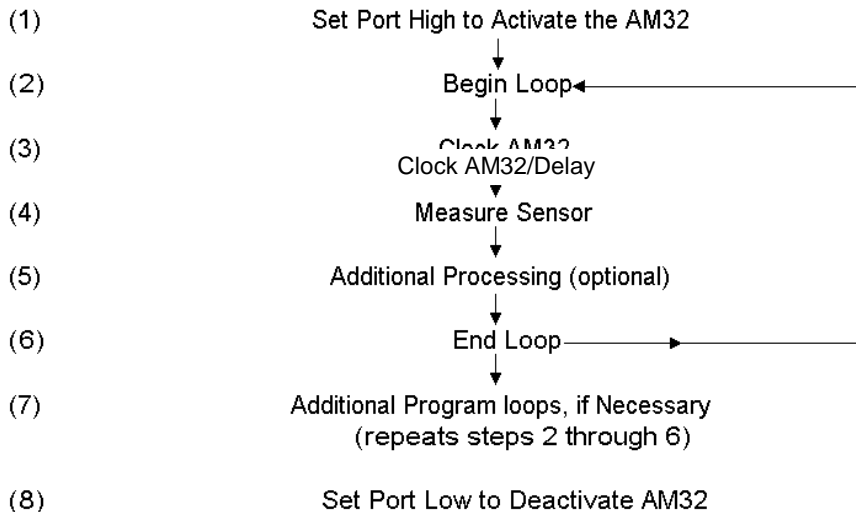

FIGURE 4-1. Single loop instruction sequence
(7) Additional Loops - Additional loops may be used if sensors that require different measurement instructions are connected to the same multiplexer. In this instance, sensors that are measured by the same instruction should be grouped in sequential input channels. Each group of sensors is measured in a separate loop (steps 2 through 6, Figure 4-1). Each loop contains clock and measurement instructions. All loops must reside between the instructions that activate and deactivate the AM32 (Steps 1 and 8).